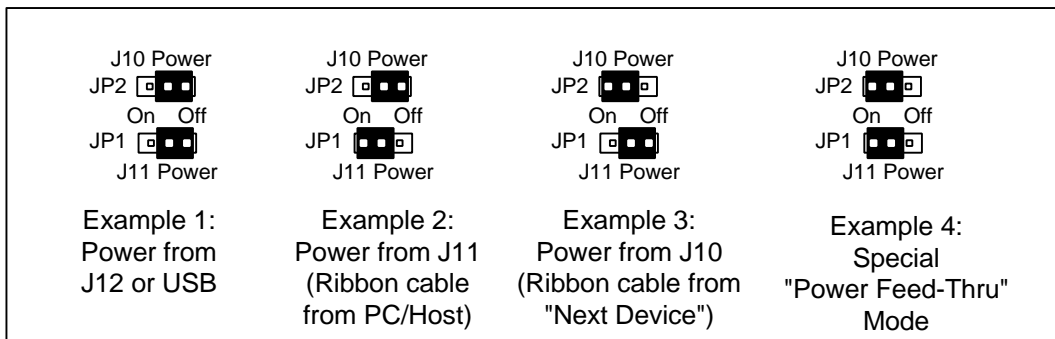

Figure 4 - PMDX-108-Input Power Supply Jumper Settings
- External power supply via screw terminal connector J12 (see section 6.4 and Figure 4 below).
- USB connector J13 (see section 6.5 and Figure 4 below). **Do not configure the PMDX-108-Input to provide power to any other boards when the PMDX-108-Input is powered from its USB connector.**
- From PC/Host on ribbon cable connector J11 pin 26 (see section 6.1 and Figure 4 below). This will not work when connected to a regular PC parallel port. This can only be used then the PMDX-108-Input is connected to a controller like the SmoothStepper that can provide +5V on pin 26 of the ribbon cable. **Do not power the PMDX-108-Input from the SmoothStepper when the SmoothStepper is powered from its USB connector.**
- From "Next Board" on ribbon cable connector J10 pin 26 (see section 6.3 and Figure 4 below). This configuration is usually used when the PMDX-108-Input is connected between a PC/Host controller and a PMDX-125. It allows the PMDX-108-Input to be powered from the PMDX-125 or similar breakout board.
Figure 4 below shows the jumper settings for various power sources.